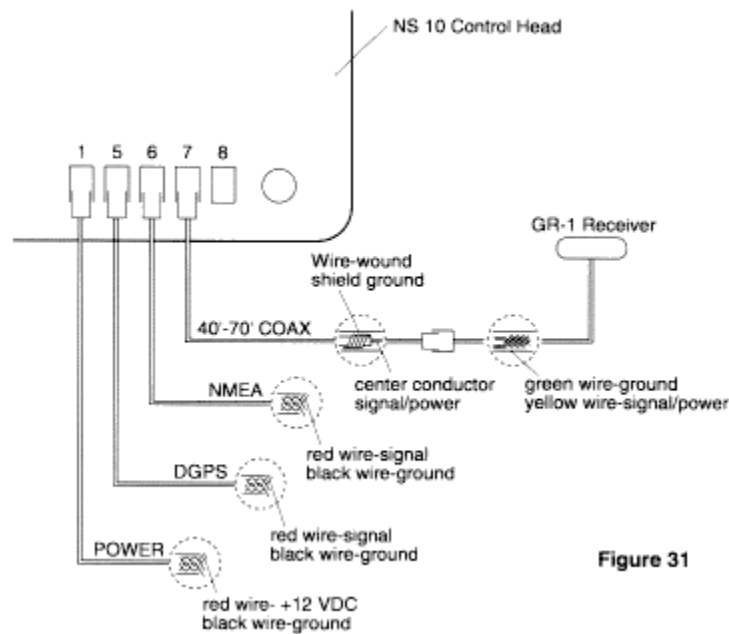

Figure 31
- The NS 10 uses port #6 to output information. Figure 31 shows the custom connector supplied to adapt to other devices.